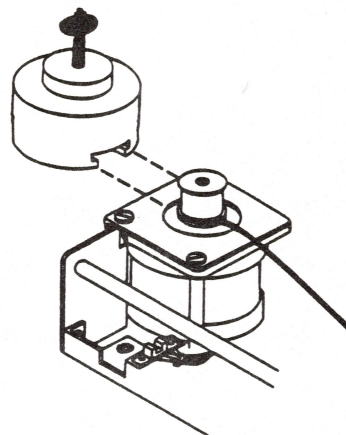

FIGURE 6
12. Use the pulley remover to take off the motor pulley. Slide the pulley remover onto the top of the pulley and turn the screw clockwise until the pulley is free (see Figure 6).